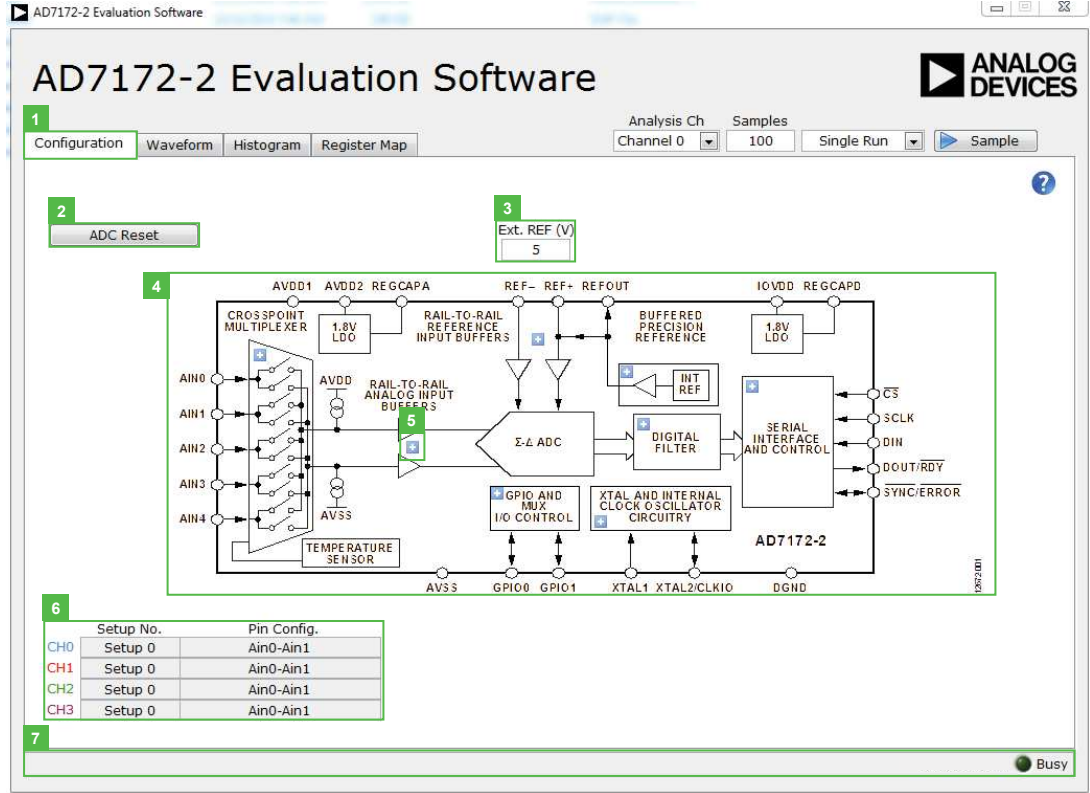

Figure 7. Configuration Tab of the AD7172-2 Evaluation Software
1. From the **Start** menu, click **Programs > Analog Devices > EVAL-AD7172-2SDZ**. The main window of the software displays (see Figure 7).
The main window of the software displays the significant control buttons and analysis indicators of the AD7172-2 evaluation board software (see Figure 7). This window is divided into four tabs: **Configuration**, **Waveform**, **Histogram**, and **Register Map**
See Figure 7 for the **Configuration** (1) tab.
Click the **ADC Reset** (2) button to perform a software reset of the AD7172-2 (see Figure 7). There is no hardware reset pin. Perform a hard reset by removing power to the EVAL-AD7172-2SDZ. The software reset has the same effect as a hard reset
The **Ext. REF (V)** (3) box sets the external reference voltage used for calculating the results on the **Waveform** and **Histogram** tabs (see Figure 7). The evaluation board has an external 5 V ADR445 reference that can be disconnected by removing R32. You can change the external reference voltage value within this box to ensure the correct calculation of results on the **Waveform** and **Histogram** tabs.
The functional block diagram (4) of the ADC shows each of the separate functional blocks within the ADC (see Figure 7). Click on one of the configuration buttons in this graph to open the configuration pop-up window for that block. Not all blocks have a configuration button.
The configuration pop-up button (5) opens a window that allows for configuration of the relevant functional block (see Figure 7).
The channel configuration overview (6) section shows the channel configuration including setup and analog inputs (see Figure 7). This allows for a quick check of how the ADC is setup.
The status bar (7) displays status updates such as **Analysis Completed** and **Reset Completed** during software use as well as the software version and **Busy** indicator (see Figure 7).
To exit the software, click the **Close** button at the top right corner of the AD7172-2 Evaluation Software window (see Figure 7).